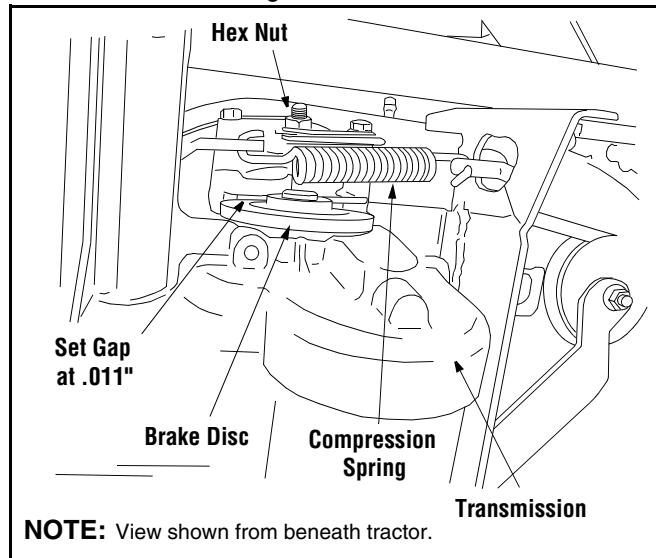

Figure 15
- Looking at the transmission from the right side of the tractor, locate the compression spring and brake disc. See Figure 15.
- Loosen, but do NOT remove, the hex nut found on the right side of the brake assembly. See Figure 15.